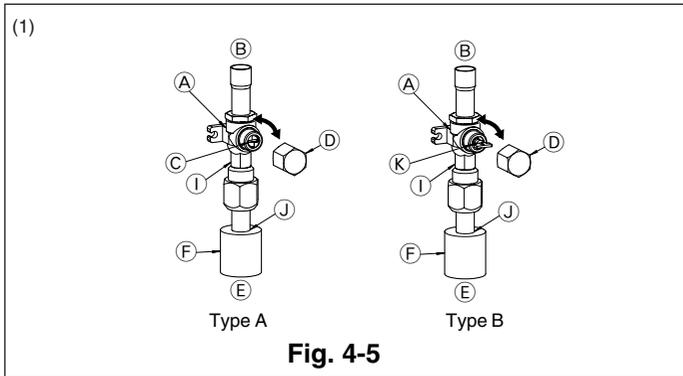

Fig. 4-5
- (1) Gas side of HA36 (Fig. 4-5)